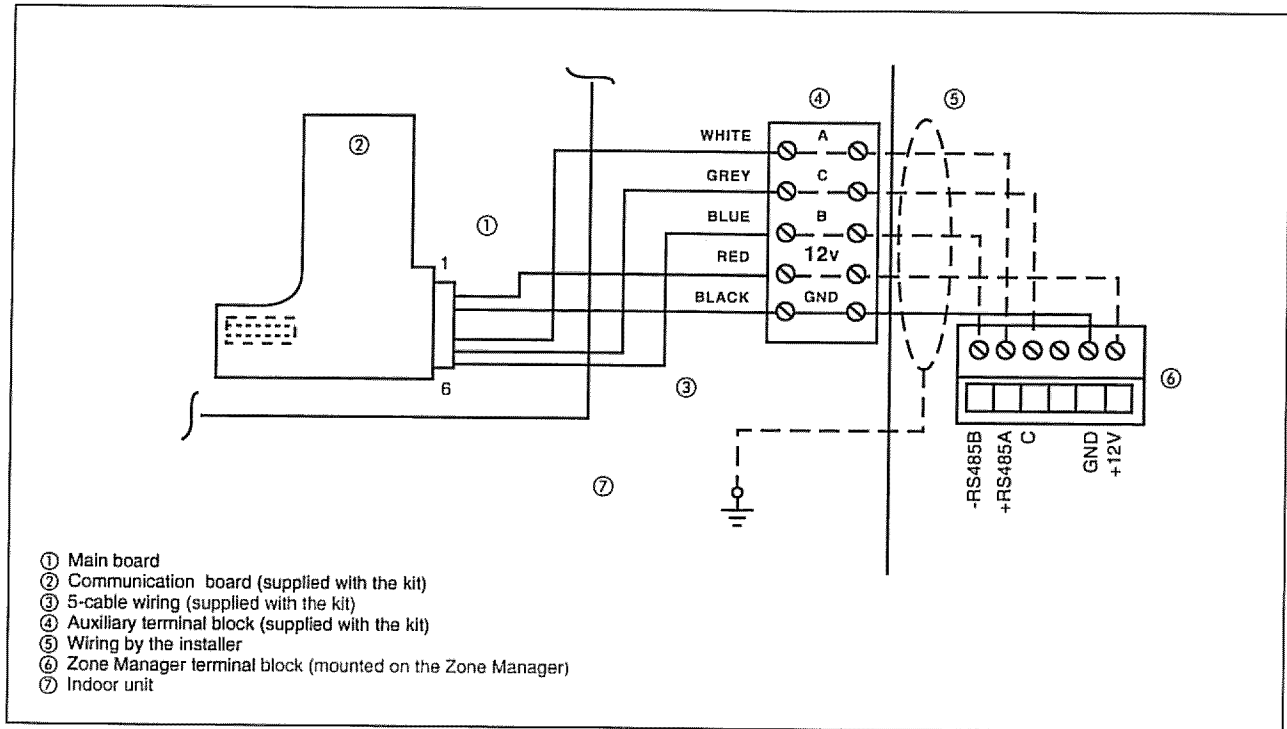

Fig. 33 - Wiring for Zone Manager
1. Plug the communication board to the J8 as shown in Fig. 33
4. Connect the other end of the wire harness to the field supplied wiring that will be connected to the zone manager as shown in Fig. 33. (Shielded cables are required. Refer to Zone Manager Installation Instructions for further information.)